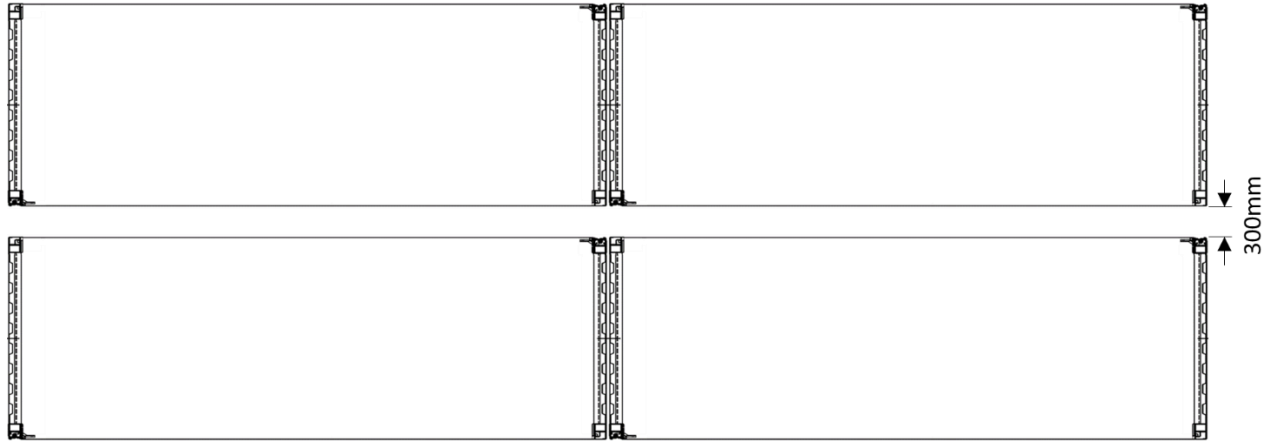

Figure 2 - Container Spacing
- Spacing on ground** A gap of at least 300mm from curtains must be maintained from adjacent containers or objects to protect the curtains. (Figure 2)